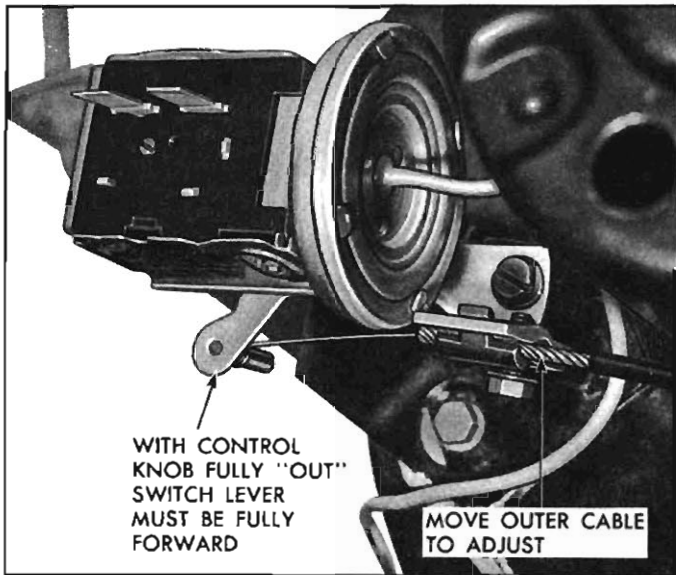

Fig. 11-14—Thermostatic Switch Cable Adjustment
1. Before attempting to adjust the thermostatic switch, check to be sure that the adjustment lever on the switch is in maximum COLD position (fully forward toward the front of the car) when the COLD control knob on the control panel is pulled fully out. Readjust the bowden cable, if necessary (fig. 11-14). Then, if system still fails the performance test, proceed as follows: